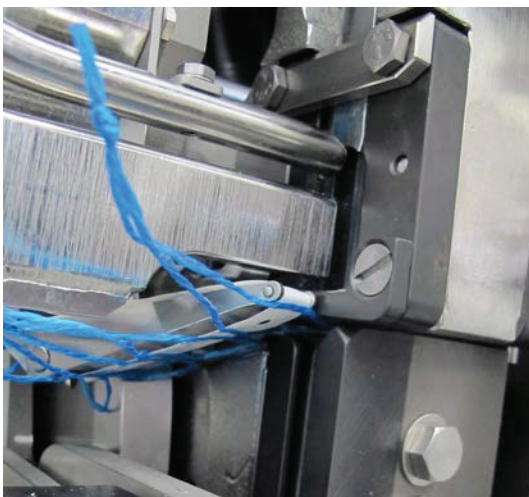

Fig. 5-17 First loop in the transfer position
- Turn the residual tape winder clockwise or press the "Loop transport, manual" function button until the first loop is in the transfer position (Fig. 5-17) and can be gripped by the clip.